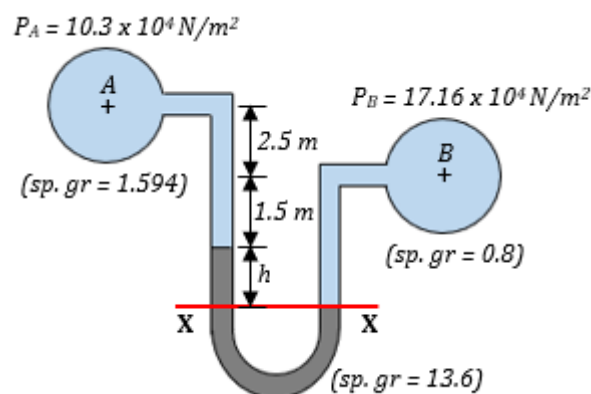

Figure 5
11. A U-tube differential manometer shown in figure 5 connects pipe A and B. Pipe A contains a liquid of specific gravity 1.594 under a pressure of 10.3×10^4 N/m² and pipe B contains oil of specific gravity 0.8 under a pressure 17.16×10^4 N/m². Pipe A lies 2.5 m above pipe B. Find the difference of pressure measured by mercury as the as the fluid-filling U-tube if the mercury level in the left limb will remain 1.5 m below B.